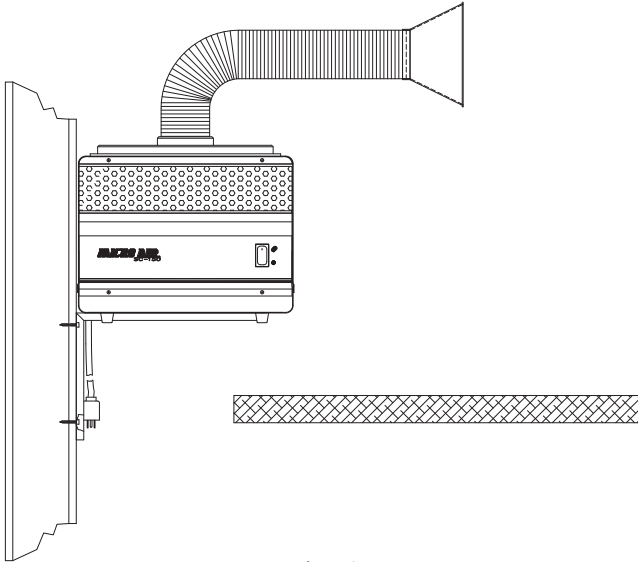

Fig. 6
B. Horizontal Wall Mount Assembly (Fig. 6)